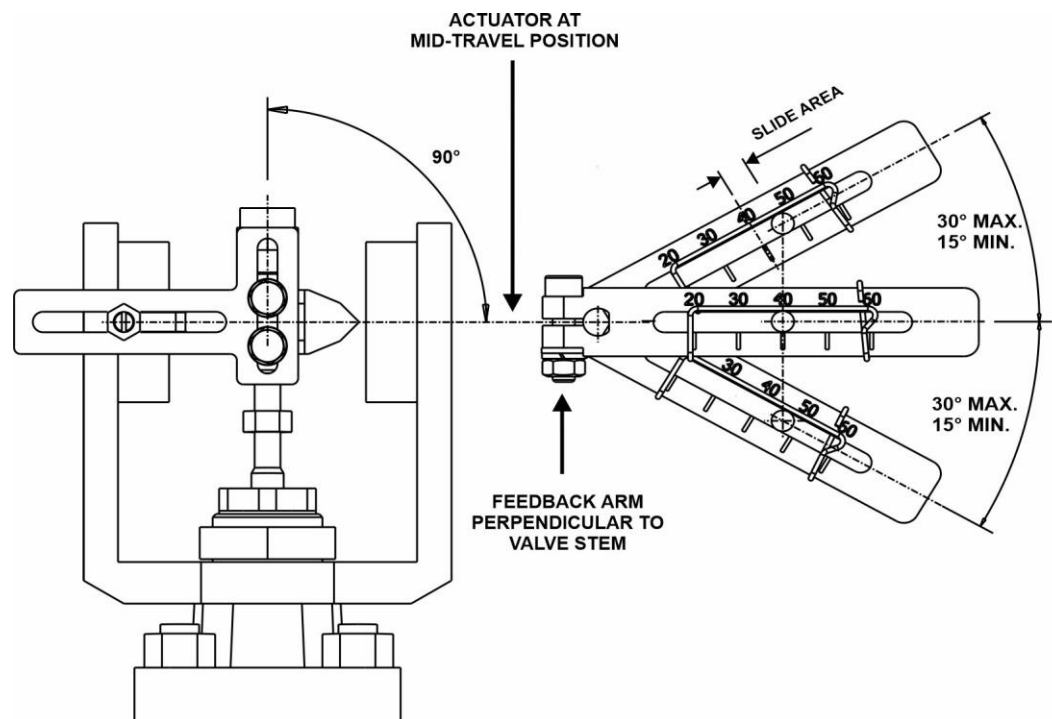

Figure 1.17 – Admissible range – linear mounting bracket
- With the actuator at its mid- travel position, adjust the mounting bracket location vertically so that the feedback arm is perpendicular to the stem, as shown in figure 1.17.
- Stroke the actuator from the top stop to the bottom stop. Travel indicator must travel within the admissible range. See figure 1.17.